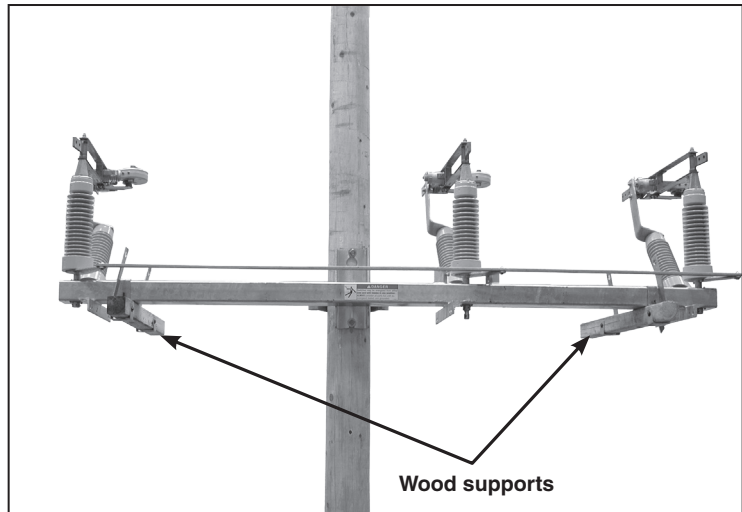

Figure 11. Remove the wood support members.
STEP 9. Remove the wood support members, lifting straps, and banding straps provided to facilitate hoisting the switch. See Figure 11.